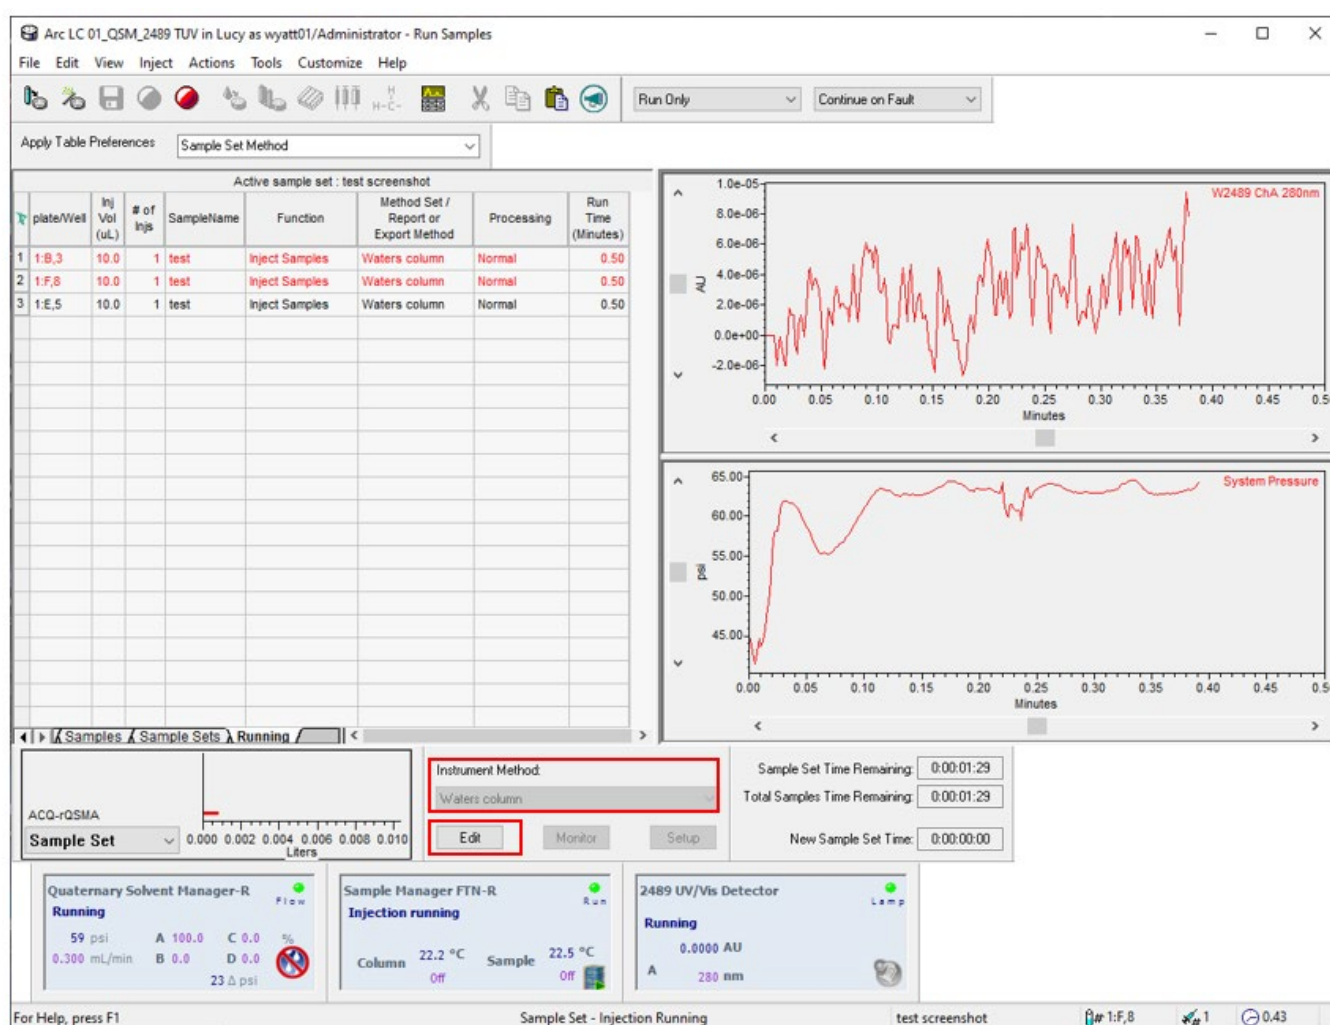

Figure 12: Screenshot of the Empower 3 software main screen.
2. In the main workspace, select the method you wish to run and click Edit. Refer to Figure 12.